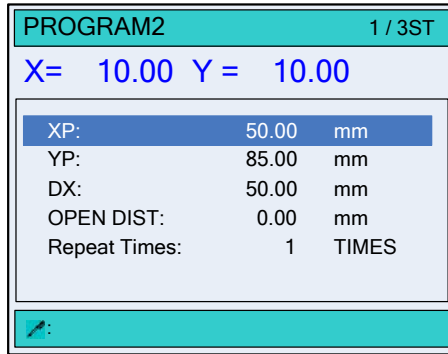

Figure 3-5 The STEP page
**Step 4** After finishing the setting of the **PROGRAM** page, press  to enter **STEP** page, as shown in Figure 3-5.